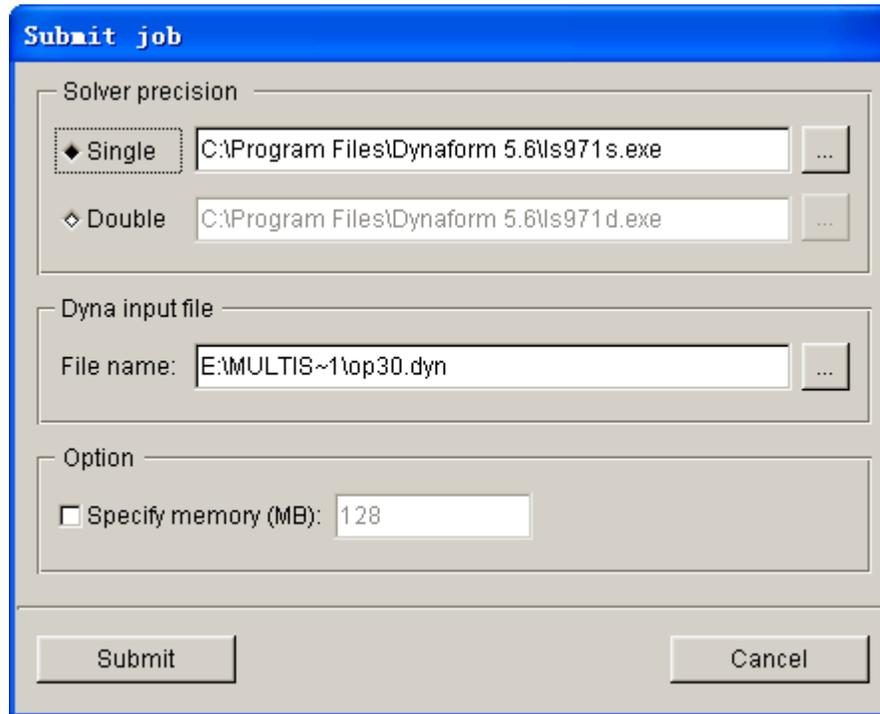

Figure 8.2.9 Submit Job dialog box
**FULL RUN DYNA** — This function enables the user to directly run a job on LS-DYNA Solver. The Submit Job dialog box illustrated in Figure 8.2.9 is displayed.